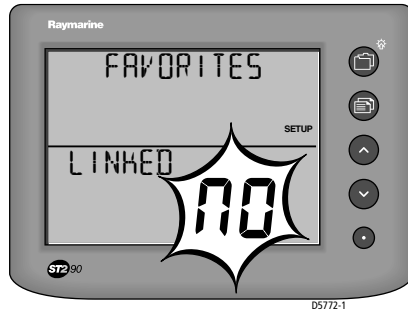

Figure 3-7: Linking/unlinking Favorite pages
3. Press the  button to move to the LINKED setup page (see *Figure 3-7*) and use the ▲ or ▼ button to select either nO to unlink, or YES to link, the upper and lower screen areas when Favorite pages are displayed.